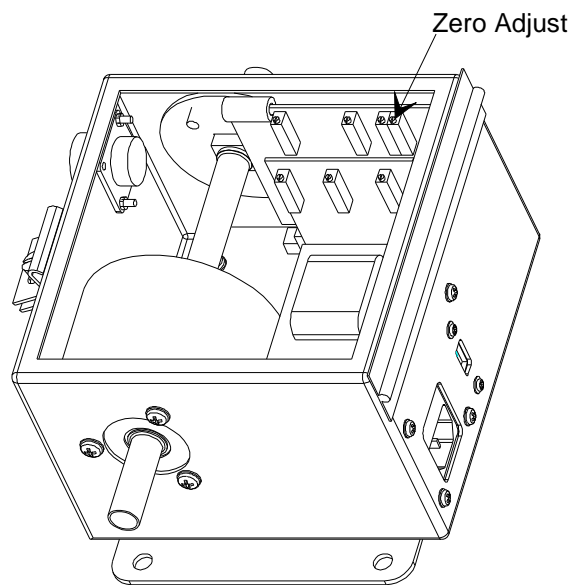

Figure 10: Zero Potentiometer on the Amplifier Board
2. Turn the zero potentiometer on the Amplifier board inside the 220 unit, shown in Figure 10, until the output is 0.0 Volts.
The coarse zero adjust is located on the amplifier board inside the 220 housing, shown in Figure 10. Do not adjust any other potentiometers on the Amplifier board.